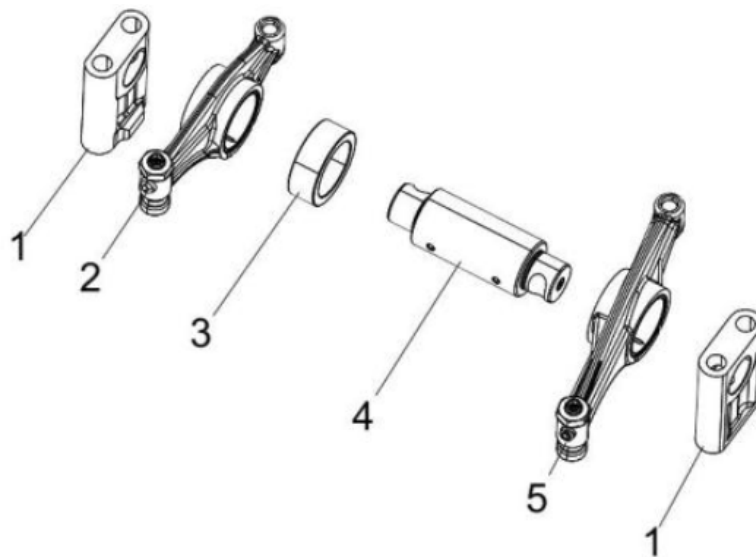

Figure 77. Rocker Arm Assembly
1. Lubricate the rocker arm shaft. Slide the rocker arm supports (Figure 77, 1), and rocker arms (Figure 77, 2 & 5) onto the shaft.
Align the hole in the rocker arm shaft (Figure 77, 4) and the hole in the rocker arm support (Figure 77, 1).
5. Insert a 0.4~0.6 mm feeler gauge between rocker arm shaft sleeve (Figure 77, 3), and intake rocker arms assembly (Figure 77, 5). If outside of specifications replace rocker arms.